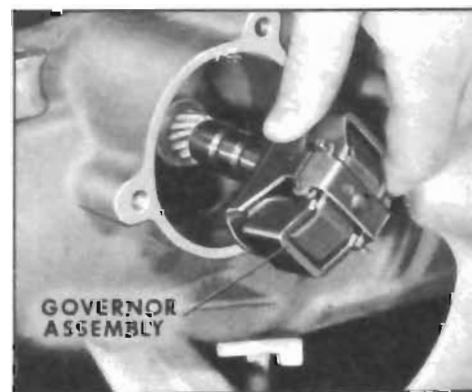

Figure 5-351
1. Slide governor into its bore in case. Turn governor assembly so teeth on governor gear engage teeth on output shaft. See Figure 5-351.